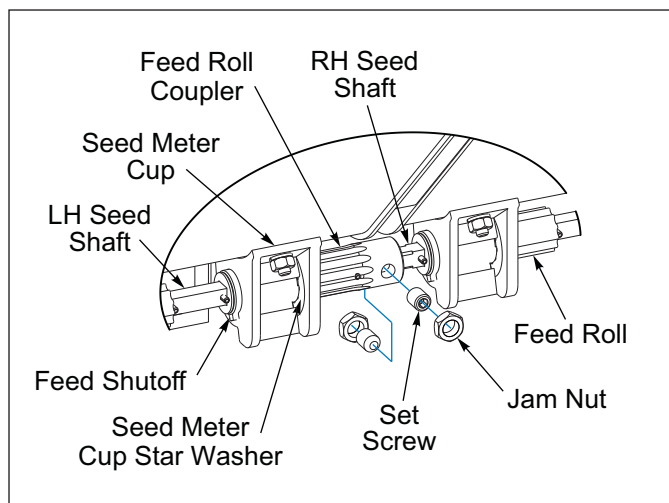

Figure 5-11: Rear Box Seed Shaft Couple
3. **Rear Seed Box:** Seed Box Feed Roll Coupling which joins the left and right Seed Shafts changes Seed Meters on the left Seed Box in comparison with Seed Meters on the right Seed Box. To adjust Feed Roll Coupling, loosen Jam Nuts and Set Screws on Coupling RH Seed Shaft is treaded into Coupling. Turn RH Seed Shaft threading it in or out as needed to equalize Seed Meters. Re-tighten Set Screws against flat side on Seed Shaft, re-tighten Jam Nuts. **See Figure 5-11.**